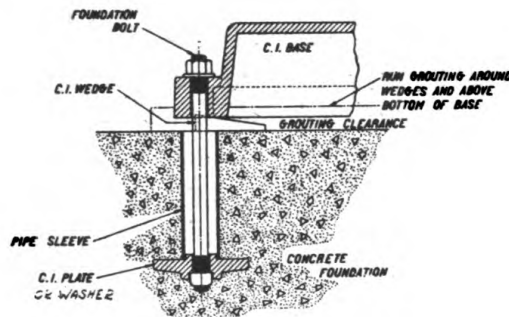

Figure 13—Foundation
b. **Foundation.**—It is of paramount importance that the unit be placed on good foundation, preferably concrete. Foundation bolts should be placed according to the method shown in figure 13. Pipe sleeves should be about two and one-half diameters larger than the size of the anchor bolts being used.
a. The necessary starting mechanism will be found on the pump end of the unit immediately above the flexible coupling. (Figure 13.) To start the engine turn ignition switch to the left and push in starter push rod button. This operation turns the starting motor, engaging starting mechanism. Use the same principle in starting the engine on this unit as you would employ in starting your own automobile. Do not hold starter push rod button down and grind the starting motor for a long period of time. This not only runs the battery down but if the engine fails to start it would indicate that something is wrong.